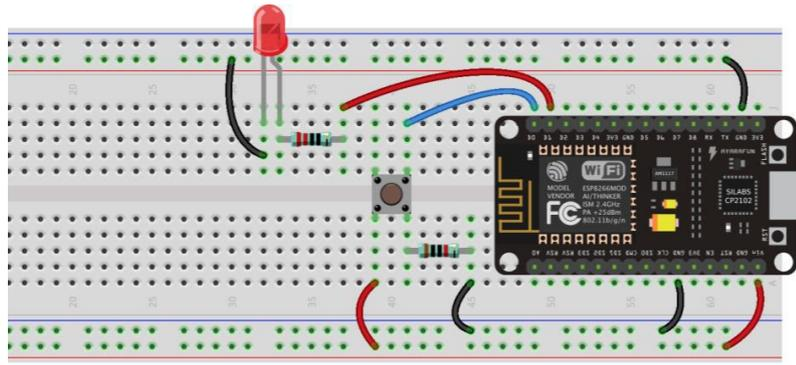

Figure A1
1. Construct the following circuit using the given kit as **Figure A1**.